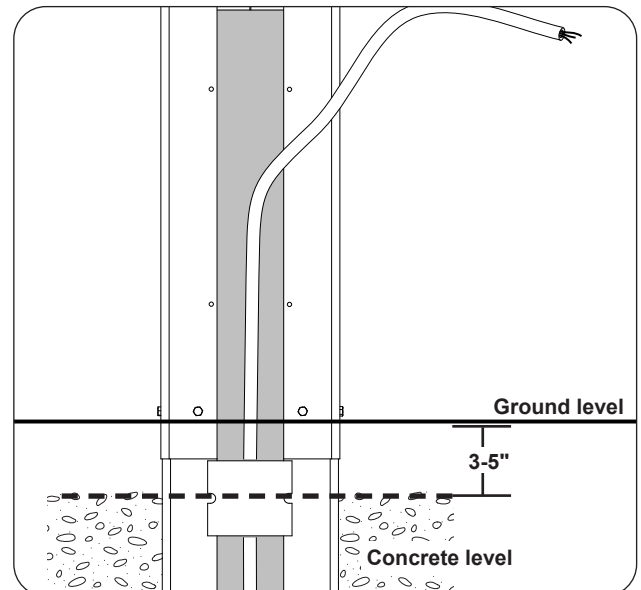

Fig. 31-2 Remove access plate and knock-out
- Where the electrical wiring is exiting the ground, dig a hole for the post and extension approximately 18" wide, 12" front-to-back, and 18 1/2" deep. See Fig. 31-2.
- Carefully orient the post over the electrical supply line and into the installation hole. Verify proper positioning. See Fig. 31-2.
- Pour the concrete mixture into the hole to approximately 3-5" below the ground level taking care to protect the electrical wiring. See Fig. 31-2.